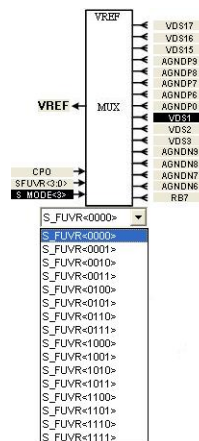

Figure 60
- (1) Click the specified network name with mouse left key, VREF can select to that network
- (2) Click the specified network switch with mouse left key, VREF can select to that network
- (3) Figure 60 will show up by clicking mouse left key, and then users can select the switch network